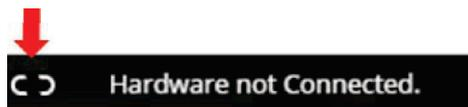

Figure 5. COM Port Status When Ports Are Not Connected
5. If the app does not connect or the connection fails, try to connect to the target by clicking in the bottom-left corner of the app (see Figure 5).